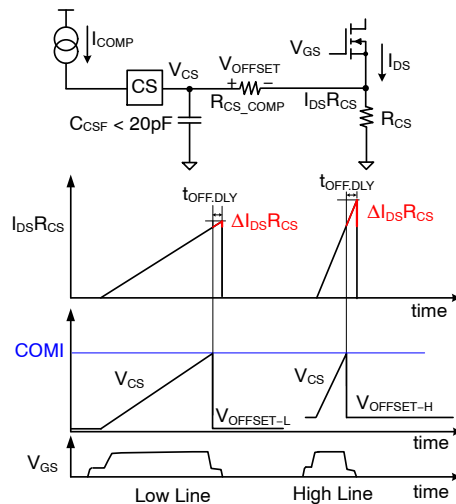
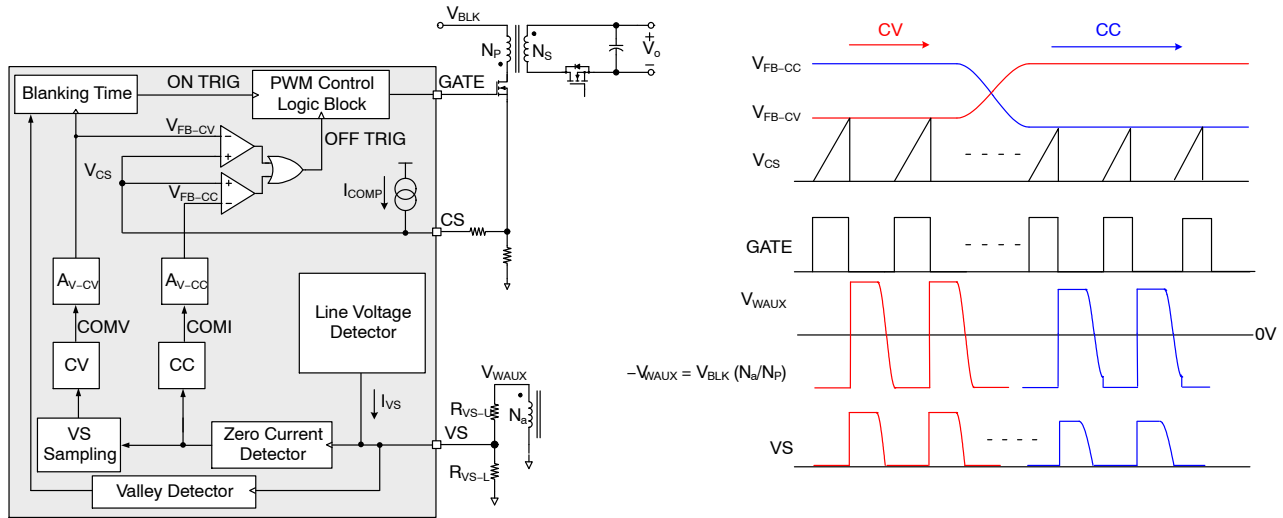

Figure 28. Line Voltage Compensation
Figure 29. Simplified PSR Flyback Converter Circuit
Line information is obtained through the line voltage detector as shown in Figure 29. I_{COMP} is an internal current source which is proportional to line voltage. The line compensation gain is programmed by using CS pin series resistor, R_{CS_COMP} depending on the power FET turn-off delay ($t_{OFF,DLY}$). I_{COMP} creates a voltage drop (V_{OFFSET}) across R_{CS_COMP} . This line compensation offset is proportional to the DC link capacitor voltage (V_{BLK}) and turn-off delay ($t_{OFF,DLY}$). Figure 28 demonstrates the effect of the line compensation.
Figure 29 shows a simplified CV / CC PWM control circuit of the FAN1080. The Constant Voltage (CV) regulation is implemented internally with primary-side control. The output signal of compensation (COMV) is scaled down by attenuator A_{V-CV} to generate a V_{FB-CV} signal. This V_{FB-CV} signal is applied to the PWM comparator to determine the duty cycle.
These two control signals, V_{FB-CV} and V_{FB-CC} are compared with a voltage of current sense (V_{CS}) by two PWM comparators to determine the duty cycle. Figure 29 illustrates the outputs of two comparators combined with an OR gate, to determine the power FET turn-off instant. Either of V_{FB-CV} or V_{FB-CC} , the lower signal determines the duty cycle. During CV regulation, V_{FB-CV} determines the duty cycle while V_{FB-CC} is saturated to HIGH level. During CC regulation, V_{FB-CC} determines the duty cycle while V_{FB-CV} is saturated to HIGH level.